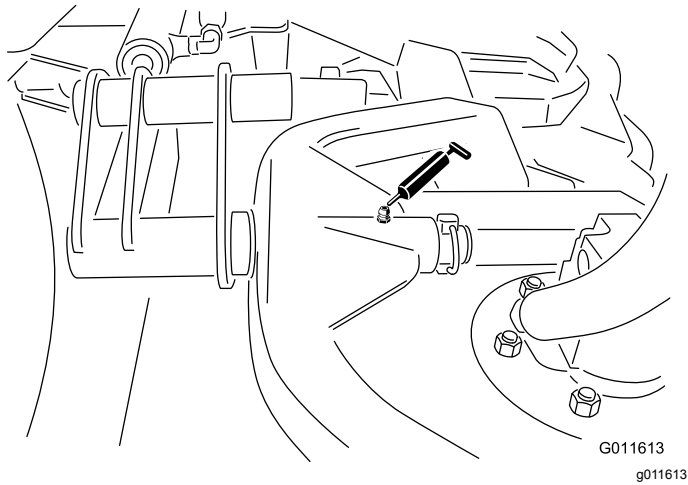

Figure 45
- Cutting unit carrier frame pivot (1 each) (Figure 45)